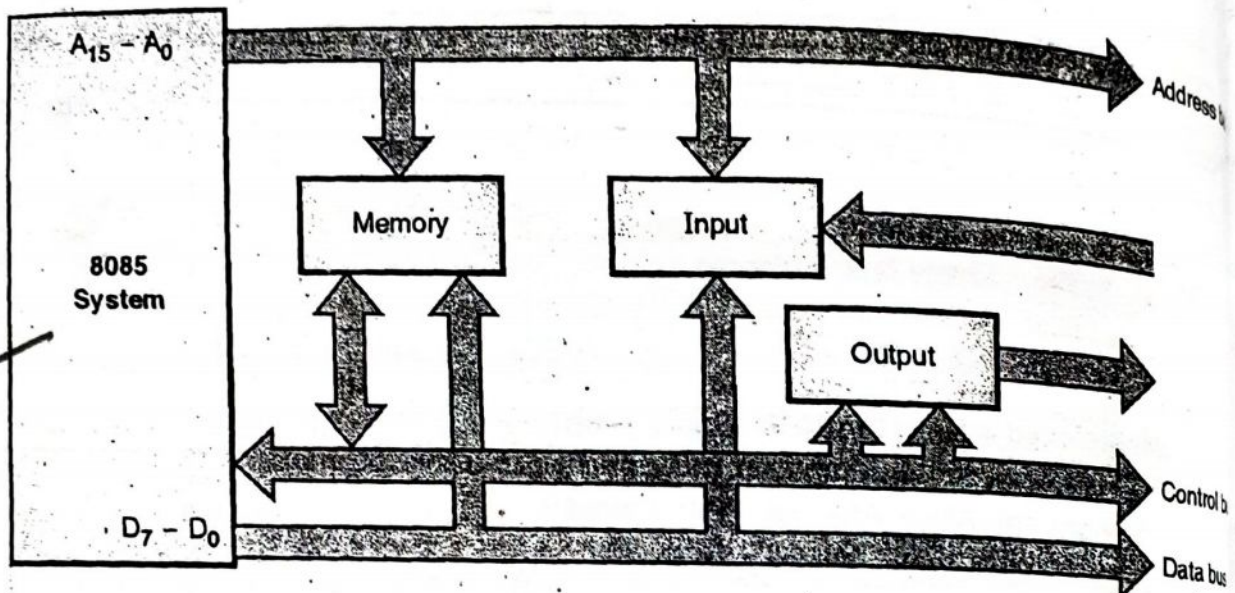

Fig. 2.5.1 : The 8085 bus structure
- Fig. 2.5.1 shows the 8085 bus structure.